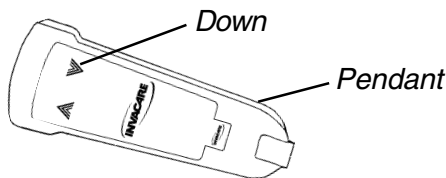

FIGURE 6 - LOWERING THE BATH LIFT
7. Lower the Bath Lift by pressing the DOWN (↓) button on the pendant (FIGURE 6).